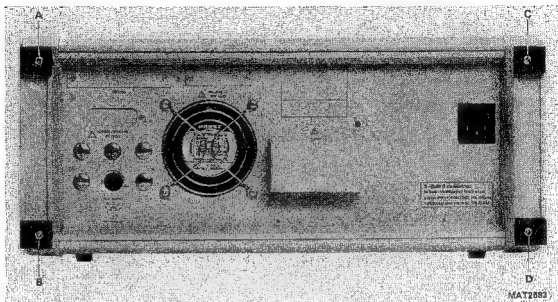

Figure 5.1 Removing the rear feet.
- Unscrew the two screws A and B present in the left foot and the two screws C and D present in the right foot at the rear panel and remove these feet (see figure 5.1).